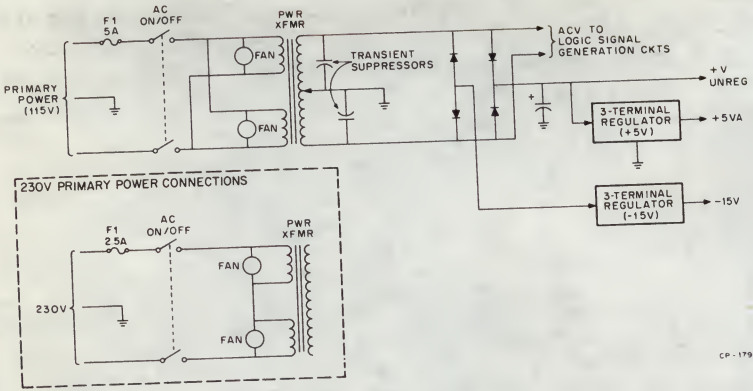

Figure 5 Unregulated Voltage and Local DC Power Circuits
**Unregulated Voltage and Local Power Circuits** — Unregulated voltage and local power circuits provide operating dc power for power supply logic and control circuits, and dc power for the +5V and +12V regulator circuits. These circuits are shown in Figure 5. AC power is supplied to the H780 via an ac input plug and cable. A toggle switch mounted on the rear of the H780 applies ac power to the power supply. Normally, this switch remains in the ON position, allowing ac power to be controlled by power distribution and control circuits external to the H780. Primary circuit overload protection is provided by a fuse mounted on the rear of the H780.